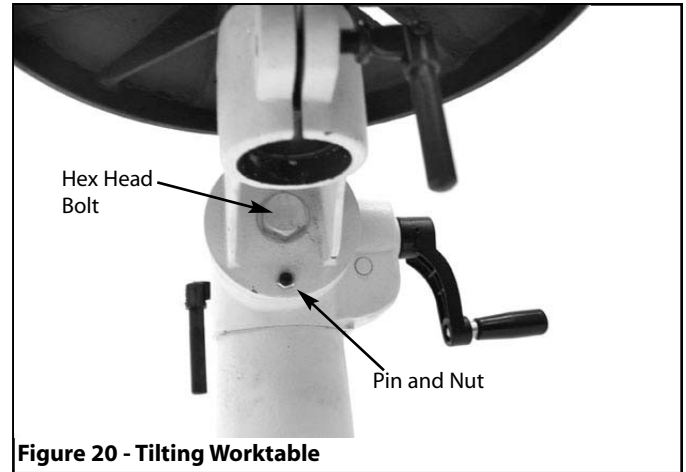

Figure 20 - Tilting Worktable
- Clamp table securely after adjustments have been made. (See Figure 20).